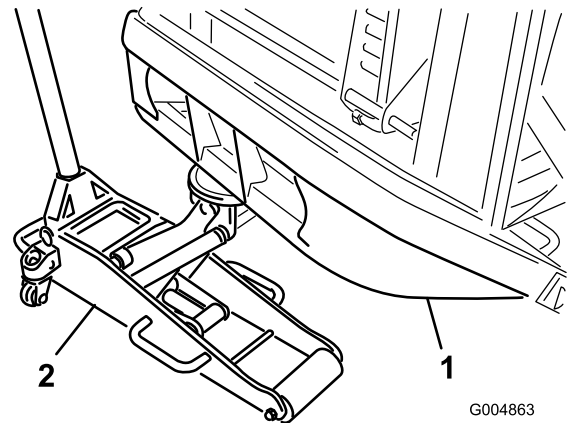

Figure 32
2. Place a jack stand under each wheel motor and a floor jack under the rear bumper (Figure 32) or suspend from a over head hoist.